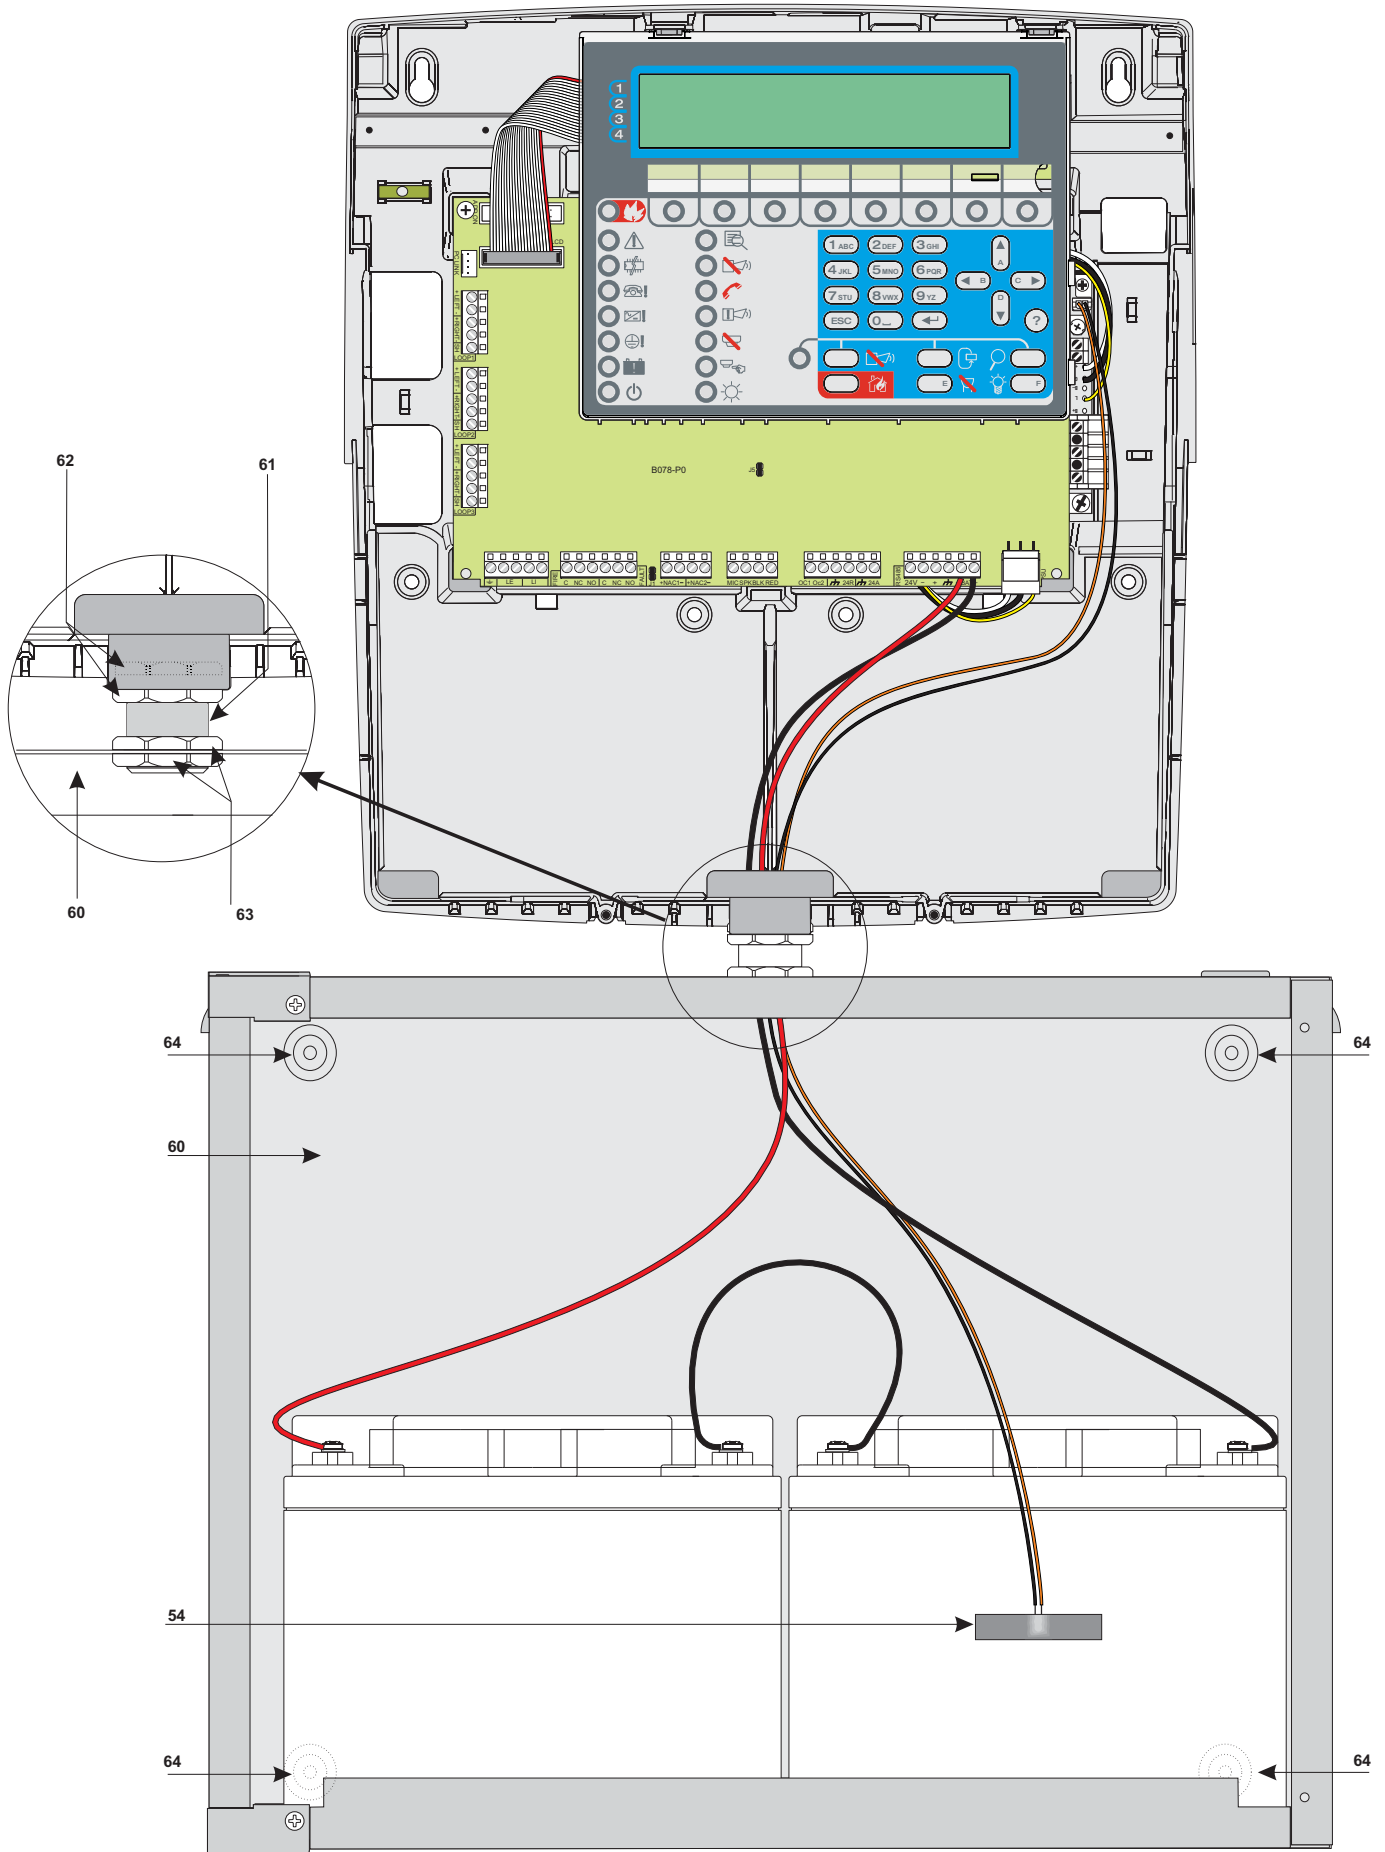

Figure 14 Control Panel (FC501-H/FC501-HK) and 38Ah Batteries metal Box connection (accessory item).
This Control panel is powered from the Mains (110/230V~ 60/50 Hz) through a switching power supply, located inside the case. The **FC501-L** Control panel provides housing for two 12V, 7Ah or 12Ah maximum batteries; the **FC501-H** Control panel can be connected to two 12V, 12Ah or 38Ah in an external metal box (see Figure 14) for power during Mains failure.
Work carefully through the following steps (see Figure 14), for the FC501-H/FC501-HK fire panel only.
*The cable conduit union with the cabinet must be secured by **HB Flame Class** (or higher) lock nuts (see particular in Figure 14).*
5. Pull the wires through the cable entry and connect them (see Figure 14). See paragraph: "Connecting the power supply".